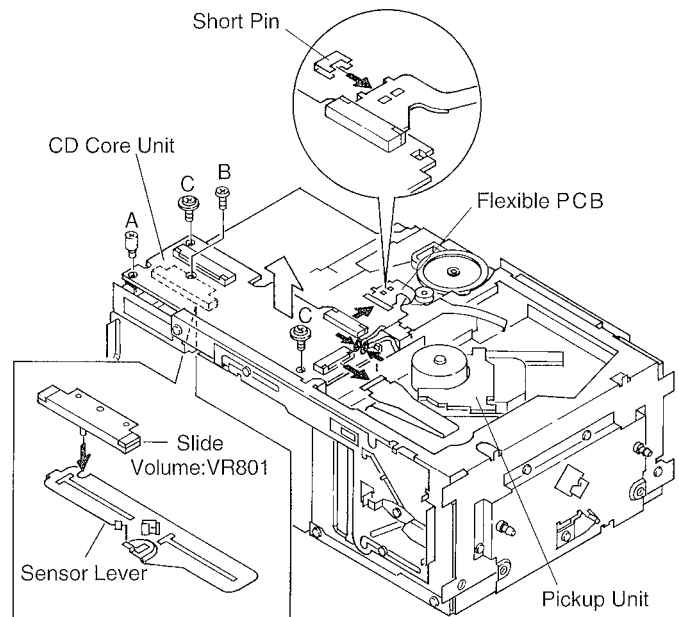

Fig.8
● Removing the Pickup Unit(Fig.8)
- 1.Attach the Short Pin onto the Flexible PCB of the Pickup Unit.(Fig.8)
- 2.Remove the Flexible PCB from the connector.(Fig.8)